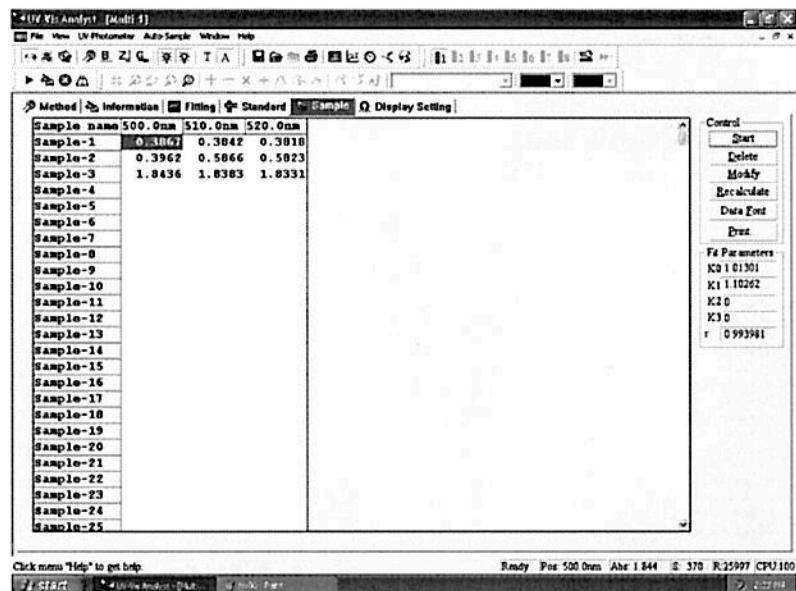

Fig. 4-5
9. Repeat steps 7-8 to measure all samples (Fig. 4-5).